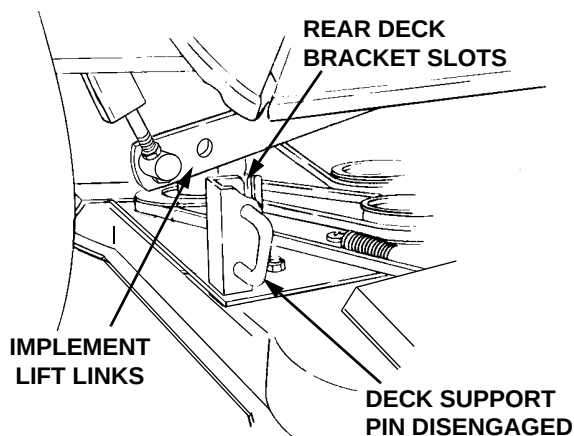

Figure 39
9. If not already done, pull the deck support pins outward, turn downward and release so both spring-loaded pins are held in the disengaged position against the outer surface of the deck brackets (See Figure 39).